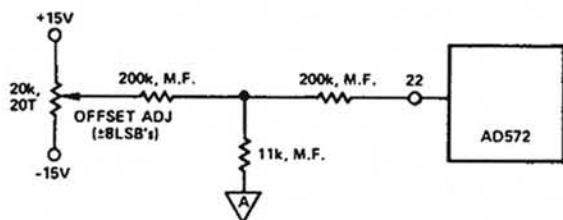
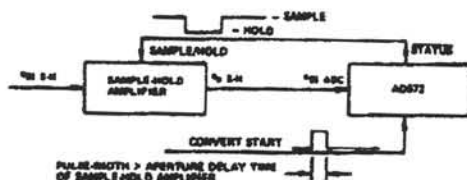
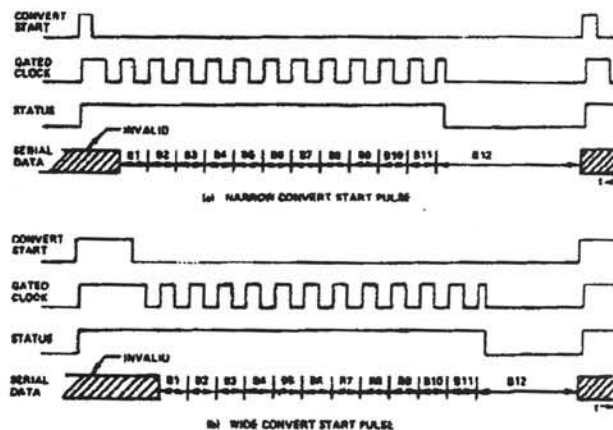

Figure 6. Low Tempco Zero Adj Circuit
Figure 8. Sample-Hold Amplifier - AD572 Interconnections
Figure 9. Effect of Convert Start Pulse-Width on Timing
An alternate offset adjust circuit, which contributes negligible offset tempco if metal film resistors (tempco < 100 ppm/°C) are used, is shown in Figure 6.
When the analog signal source has a low impedance (as would be the case if it were the output of the sample-and-hold amplifier of Figure 8), it can be connected to either of the direct input pins 24 and 25. The buffer follower is used in the application as shown in Figure 6, in which the analog input to the converter comes directly from the output of a FET analog multiplexer. The selected channel has a typical  $r_{on} = 200 \Omega$  which has a 3000 ppm/°C tempco. If the multiplexer output were connected to the 0 to +10 V direct input Pin 24 (5 k $\Omega$  input impedance, nominal), this  $r_{on}$  would introduce a 4% gain scale-factor loading error, which is well beyond the normal  $\pm 0.25\%$  FSR external gain adjustment range, and a tempco of approximately 3000 ppm/°C  $\times$  4% = 120 ppm/°C. By connecting the buffer between the multiplexer output and direct input, these errors are eliminated. The buffer amplifier input bias current (50 nA typical) must flow through the analog signal source, however. This limits the upper practical source impedance to several kilohms so that the offset voltage  $I_{BIAS} R_{SOURCE}$  can be kept negligible, even though the buffer amplifier dynamic input impedance  $\geq 100 M\Omega$ . The buffer amplifier has a 2  $\mu$ s settling
**Sample-Hold Amplifier:** A sample-and-hold amplifier (SHA) is normally connected between the analog signal source and AD572 analog input when the analog signal can change by more than 1/2 LSB during conversion. Typical SHA-AD572 interconnections are shown in Figure 8. The STATUS output drives the SHA SAMPLE/HOLD input directly. On receipt of a CONVERT START pulse, the STATUS flag changes from "1" to "0" causing SHA mode to change from SAMPLE to HOLD. The SHA output voltage  $e_{o, S-H}$  is then held constant at the value existing just prior to application of the HOLD command for the complete conversion period. At the end of conversion, the STATUS flag returns to "1," restoring the SHA mode to SAMPLE,  $e_{o, S-H}$  again tracks the analog signal voltage  $e_{in, S-H}$  (after the signal acquisition transient has subsided).
Note that the internal (gated) clock is inhibited for the duration of the CONVERT START pulse and does not start running until the termination of this pulse (see timing). This can be used to simplify control signal timing requirements. In the circuit of Figure 8, for example, the CONVERT START signal pulse-width can be extended beyond the aperture delay time of the SHA to assure that  $e_{o, S-H}$  is in steady state before conversion is initiated. This assured accurate conversion without requiring additional delay timing circuitry. The effect of varying the CONVERT START pulse width on the conversion timing cycle is shown in Figure 9.